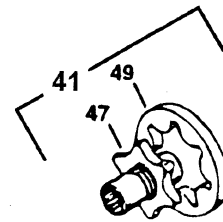

Figure 1
3. Installing the camplate seals. Install washer (13) to both trunnion areas. Insert new o-ring (12), o-ring cover (16) and retain with trunnion cover (16A) and screws (17). On the linkage side of the camplate install needle bearing (10), washer (13), seal (14) and retain with seal cover (15) and screws (17). Torque screws (17) 36 to 48 lbs. in. [4 to 5 Nm].
4. Install retaining ring (4) on shaft (8). Install thrust washer (5), thrust bearing (6), and second thrust washer (5). Secure with second retaining ring (4).
5. Install shaft in housing. Install washer (3), new shaft seal (2), and retain with retaining ring (1).
7. Install new gasket (31) over dowel pins (32) installed in housing.
8. Place backplate (33) over shaft and on housing with gasket in place.
9. Install outer gerotor ring (49) into adapter assembly (43). Lubricate ring to hold in place. See Figure 1.